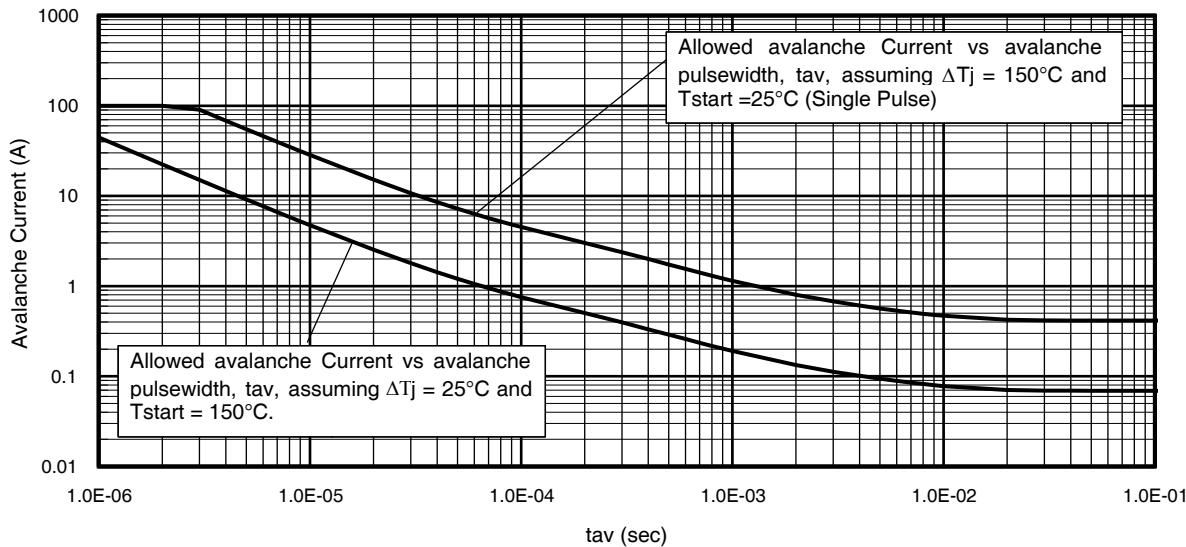

Fig 14. Typical Avalanche Current vs.Pulsewidth
Notes on Repetitive Avalanche Curves , Figures 14, 15:
- ΔT = Allowable rise in junction temperature, not to exceed T_{jmax} (assumed as 25°C in Figure 14, 15).
$Z_{thJC}(D, t_{av})$ = Transient thermal resistance, see Figures 14)